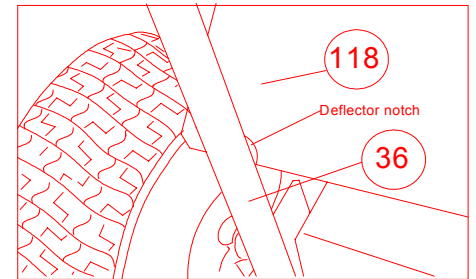

Fig. 3
3. **EXHAUST ASSY.** Place flange gasket (item 35) onto housing of main unit and assemble **exhaust elbow** to housing using screws (item 117), washers (item 140) and lock nuts (item 132), provided in parts bag. The rear hole mounts deflector (item 118), using screw assembly (already attached to deflector) and lock nut (item 132). Bend opposite end of deflector down until notch in rear of deflector catches onto handle brace (item 36) (see figure 3).